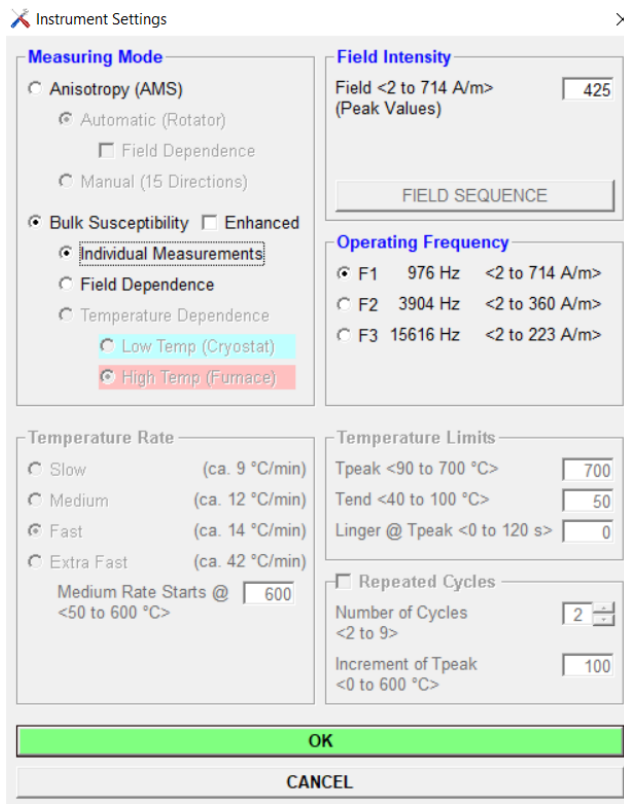

Figure 31: Instrument Settings window with Bulk Susceptibility Individual Measurements selected
2. Select **Bulk Susceptibility: Individual Measurements** (Figure 31).